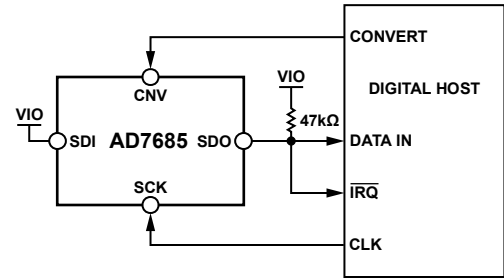
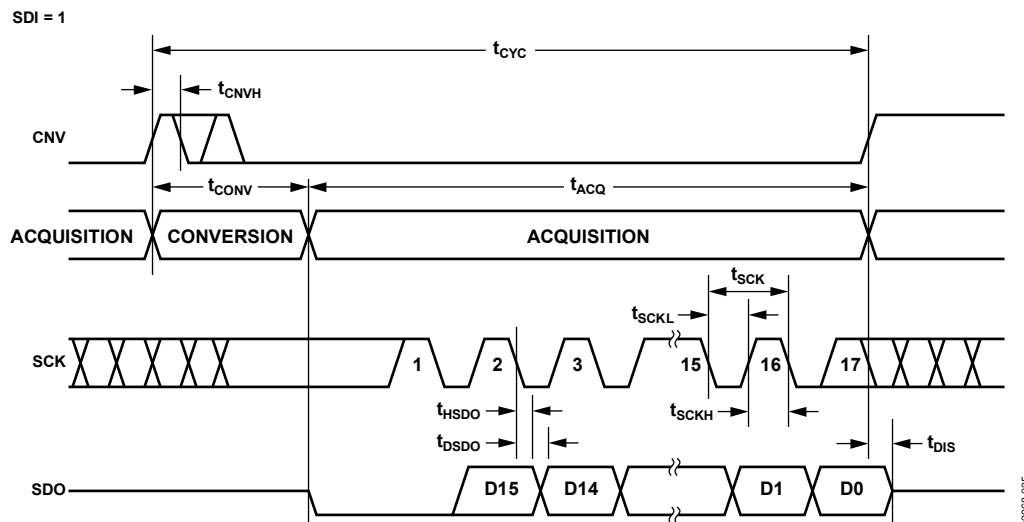
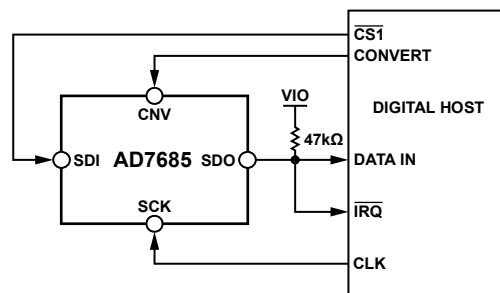
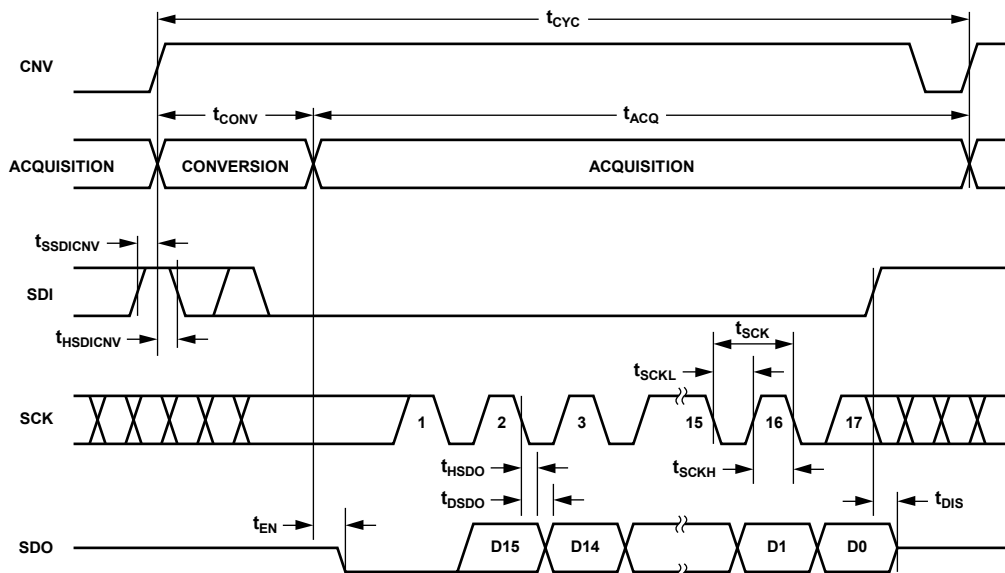

Figure 36. $\overline{\text{CS}}$ Mode 3-Wire with BUSY Indicator Connection Diagram (SDI High)
Figure 37. $\overline{\text{CS}}$ Mode 3-Wire with BUSY Indicator Serial Interface Timing (SDI High)
Figure 40. \overline{CS} Mode 4-Wire with BUSY Indicator Connection Diagram
Figure 41. \overline{CS} Mode 4-Wire with BUSY Indicator Serial Interface Timing
- In the $\overline{\text{CS}}$ mode, if $\overline{\text{CNV}}$ or SDI is low when the ADC conversion ends (see Figure 37 and Figure 41).
The connection diagram is shown in Figure 36, and the corresponding timing is given in Figure 37.
The connection diagram is shown in Figure 40, and the corresponding timing is given in Figure 41.